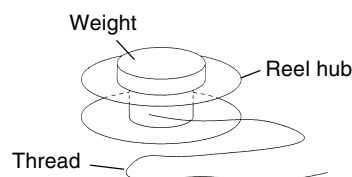

Fig. 1
- (1) Reel hub for back tension measurement (Fig.1)